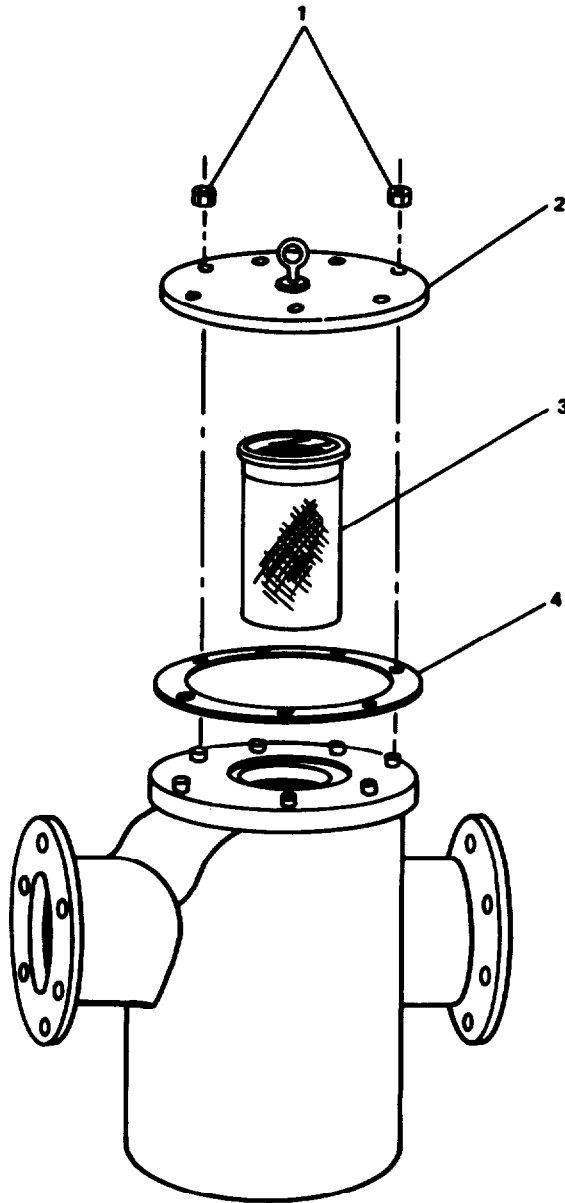

FIGURE 2-241. 8-Inch Simplex Sediment Strainer, Repair.
- a. Remove hexagon nuts (1, FIGURE 2-241) and cover (2).
- b. Remove cover gasket (4).
- c. Remove basket sediment strainer element (3).
- a. Install basket sediment strainer (3, FIGURE 2-241).
- b. Install gasket (4) and cover (2).
- c. Install hexagon nuts (1) and torque to 75 ft-lb (102 N•m).